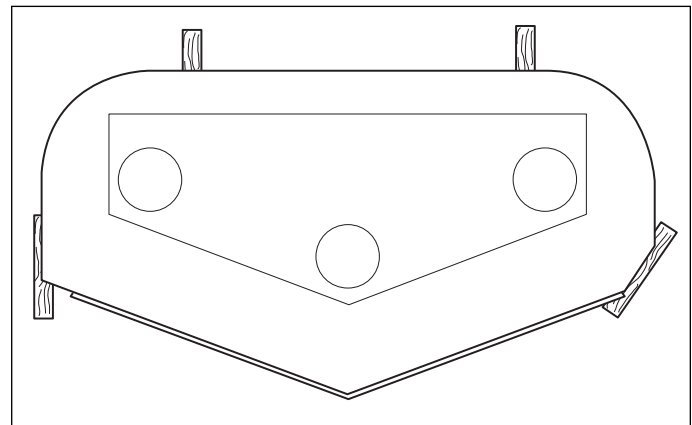

Figure 44. 2 x 4 Locations
3. Place 2 x 4 blocks under each corner of the mower deck with the 3-1/2" sides being vertical. Place a 1/4" (0,64cm) thick spacer on top of the rear 2 x 4 blocks. See Figure 44.